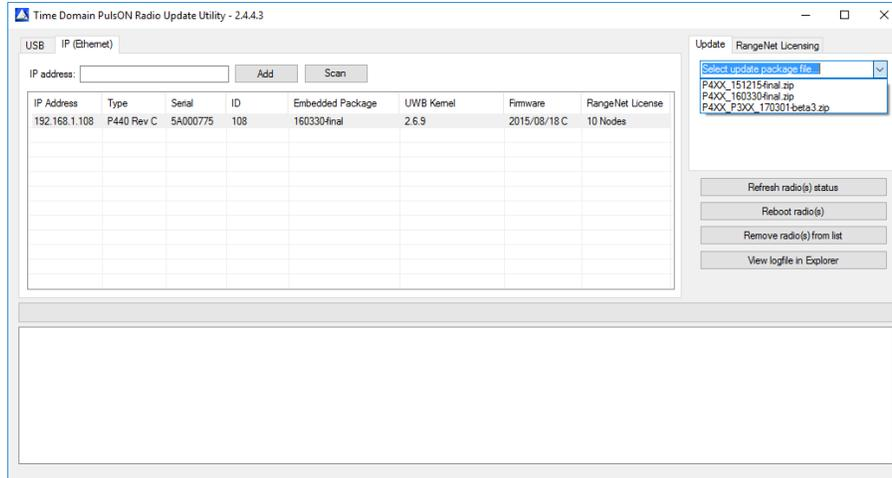

Fig. 5: Example of downgrading
3. Connect the module to be downgraded to the Host computer and run the Update Utility. Let us assume that (a) unit 108 is currently at version 160330-final, (b) but you wish to downgrade it to 151215-final, and (c) that you have moved the P4XX_151215-final to the directory containing the 170301-beta3 release zip file. In that case, **Figure 5** shows the screen which would appear if you connected to the unit with Ethernet. At this point you should select the P4XX_151215-final.zip file from the drop-down menu, highlight the entry for unit 108 by clicking on it, and then click the "Update Selected radio(s)" button.